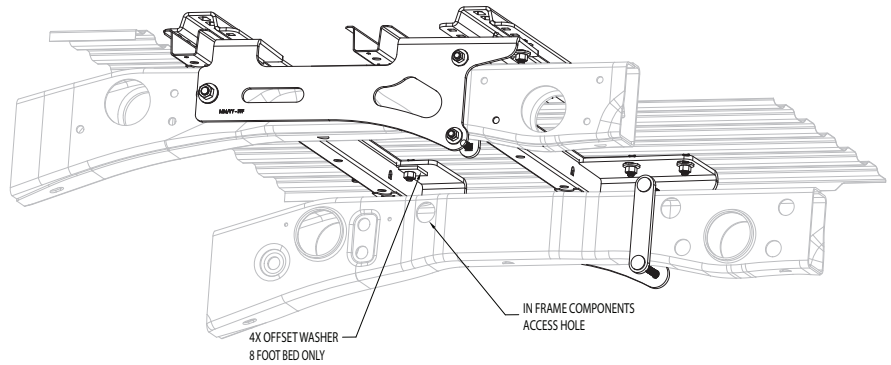

Fig. 2
- Install #1 carriage bolt (5/8" X 1 3/4") and #2 Frame Spacer through frame using #11 Wire Bolt Leader. Attach carriage bolt to Leader and pass the wire through the Frame Spacer. Pass the free end of Leader through the access hole and out the frame through the hole in the Mounting Bracket. Pass the Frame Spacer through the access hole (fig. 2) followed by the carriage bolt. Pull free end until the bolt is extended through the Mounting Bracket. Carefully remove Wire Bolt Leader and install #4 5/8" conical washer and #5 5/8" hex nut.
- Follow Bed Rail installation instructions to install Bed Rail hardware, do not tighten to torque specifications at this time. 8 foot truck bed installation, use four #12 Offset Washer as shown in (fig. 2).